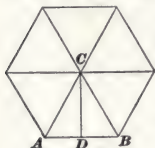

FIG. 52.
**EXAMPLE 2.**—Find the cubical contents of a hexagonal prism, Fig. 52, 12 inches long, each edge of the base being 1 inch long.
3. What is the area of the entire surface of the hexagonal prism whose base is shown in Fig. 52?